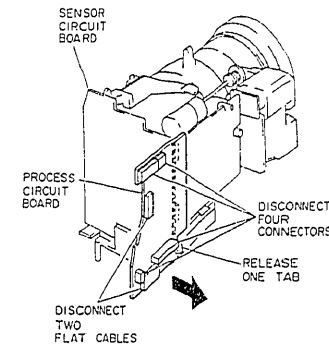

Fig. 2-12
- 1) Disconnect four (4) connectors (CN526, CN1327, CN1328, CN1331) on the process circuit board. (See Fig. 2-12)
- 2) Disconnect two (2) flat cables (CN921, CN222) on the process circuit board.
- 3) Release one (1) tab and remove the process circuit board in the direction of the arrow separating from the sensor circuit board. (The process and sensor circuit boards are connected via board-in type connectors.)